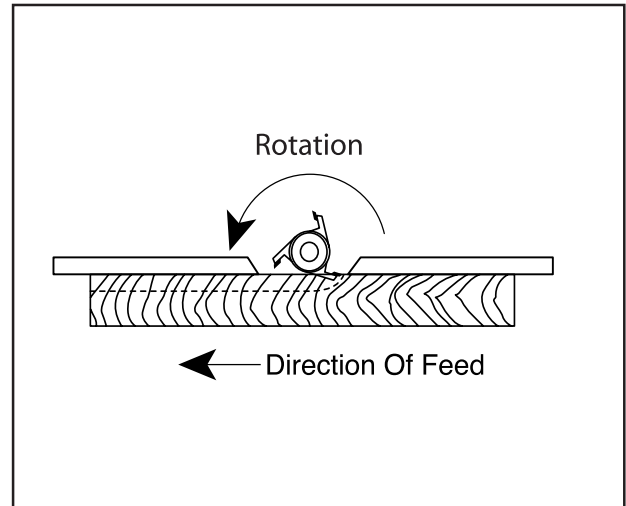

Figure 33. Fence adjustment for blind cuts.
4. Run a test piece through the shaper as shown in **Figure 33**.